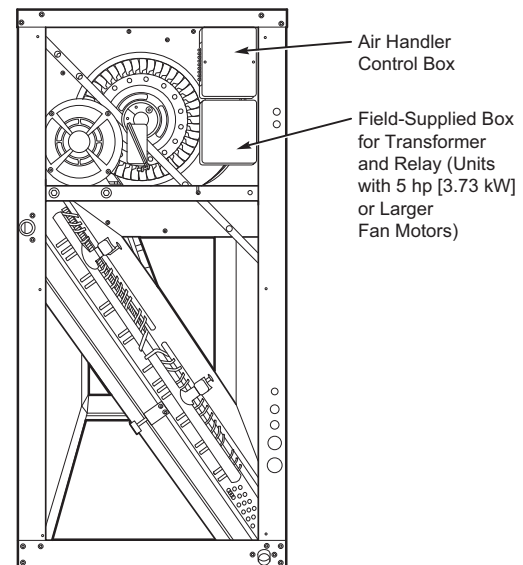

Fig. 8 — Installing Economizer Transformer and Relay
3. For air handlers without a circuit breaker in the control box (unit with fan motor sizes less than 5 hp [3.73 kW]) mount the transformer and relay inside the control box. Use the holes in the transformer base and relay base as guides to drill holes into the box and fasten components in place with supplied No. 8 x 1/2 in. sheet metal screws. See Fig. 8.
4. For air handlers with a circuit breaker in the control box (unit with fan motor sizes of 5 hp [3.73 kW] or greater), mount the supplied transformer and relay in a field-supplied and installed electrical box as shown in Fig. 8. Use the holes in